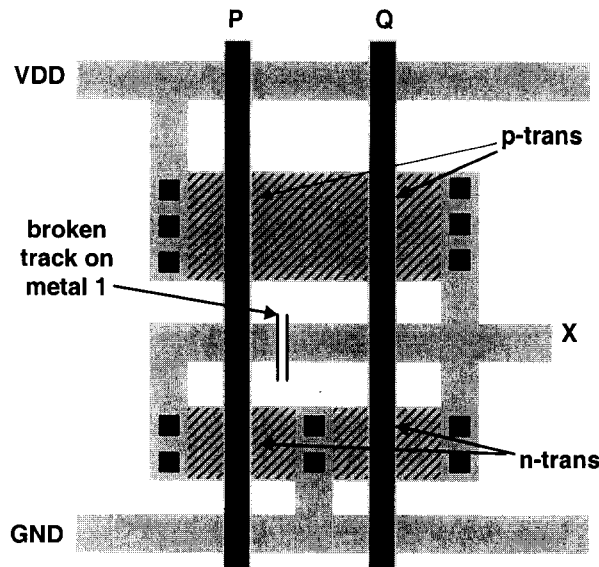

Figure 6.1
- b) Figure 6.1 shows the layout of a two-input gate with a manufacturing defect manifested as a break in the signal track as shown. Explain why this fault cannot be represented as a stuck-at fault. Derive the faulty behaviour of this circuit.